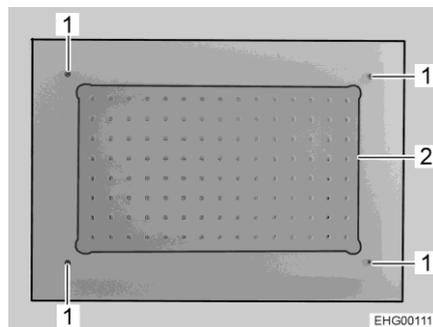

Fig. 316 Ceiling lamp
- Unscrew 4 screws (Fig. 316,1).
- Remove glass plate (Fig. 316,2) with firmly mounted LEDs.
- Position new glass plate including LEDs and screw in the 4 screws (Fig. 316,1).